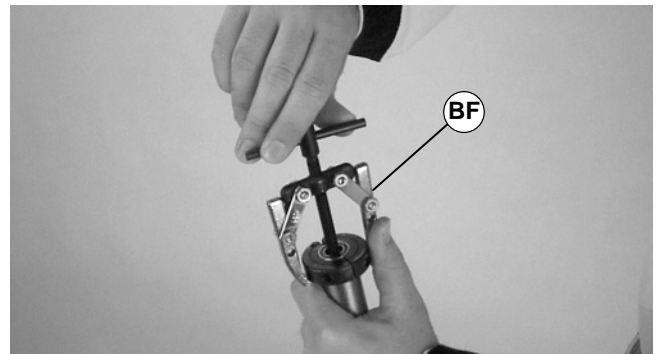

Figure 42
3. Using a puller (BF of Figure 42), remove and discard bearing(s).